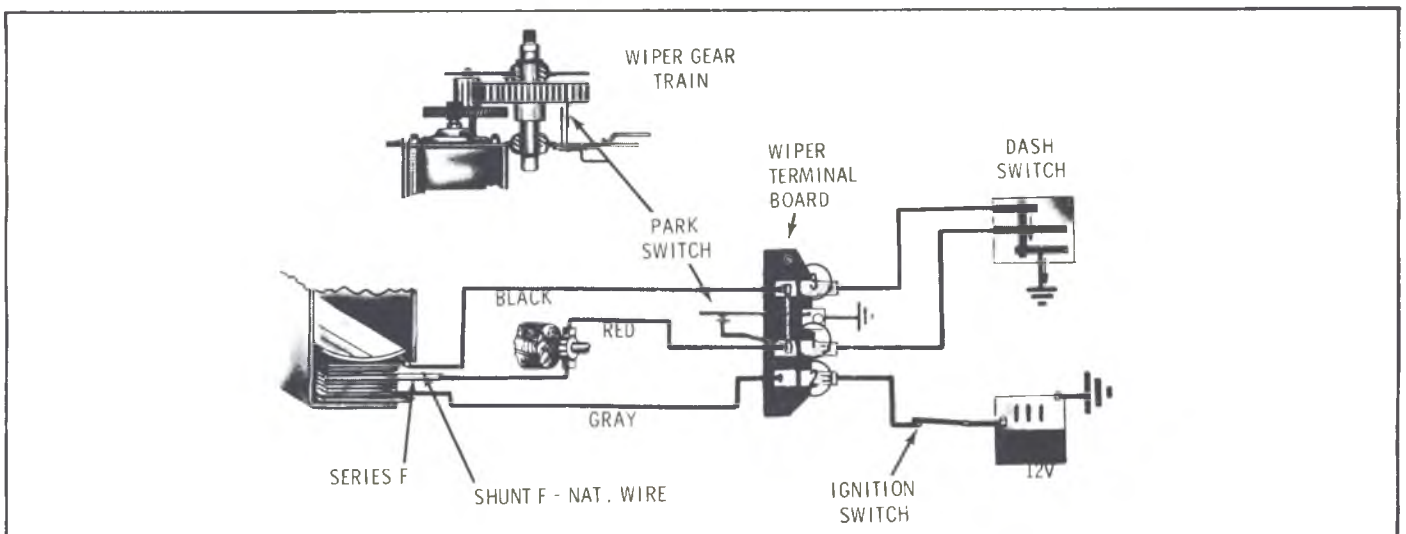

Fig. 37--LO Speed Circuit
Turning the wiper switch to the LO speed position completes the circuits from the wiper terminals 1 and 3 to ground. Current then flows from the battery via wiper terminal No. 2 through the series field and divides; (1) part passes through the armature to ground via wiper terminal No. 1 to the wiper switch and (2) the second part passes through the shunt field to ground through wiper terminal No. 3 to the wiper switch (fig. 37).